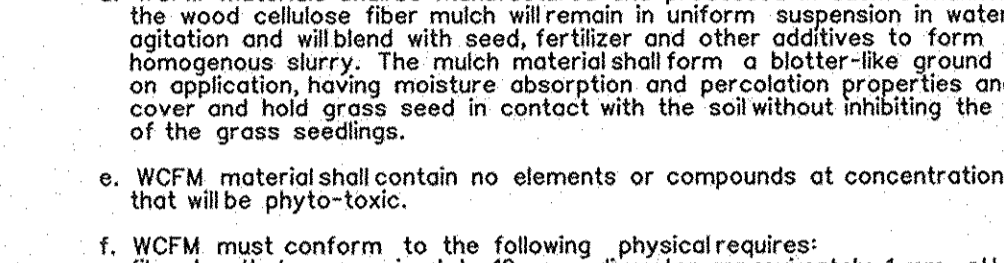

Figure 5 Incremental Stabilization - Fill G-20-7
a. Excavate and stabilize all temporary swales, side ditches, or berms that will be used to divert runoff around the fill. Construct Slope 3:1 on low side of fill as shown in Figure 5, unless other methods shown on the plans address this area.
i. Select one or more of the species or mixtures listed in Table 25 for the appropriate Plant Hardiness Zone (from Figure 5) and enter them in the Permanent Seeding Summary below, along with application rates and seeding dates. Seeding depths can be estimated using Table 26. If this Summary is not put on the construction plans and completed, then Table 25 must be put on the plans. Additional planting specifications for exceptional sites such as shorelines, stream banks, or dunes or for special purposes such as wildlife or aesthetic treatment may be found in USDA-SCS Technical Field Office Guide, Section 3-42.